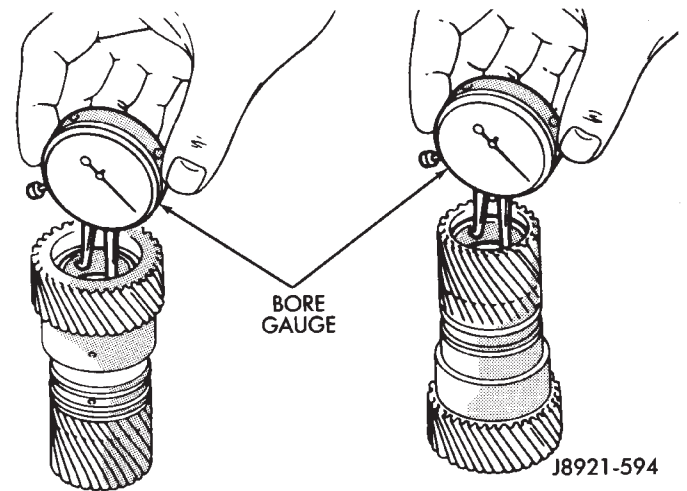

Fig. 8 Checking Sun Gear Bushings
(7) Measure inside diameter of sun gear bushings with bore gauge or inside micrometer (Fig. 8). Maximum allowable diameter is 27.08 mm (1.0661 in.). Replace sun gear if bushing inside diameter is greater than specified.